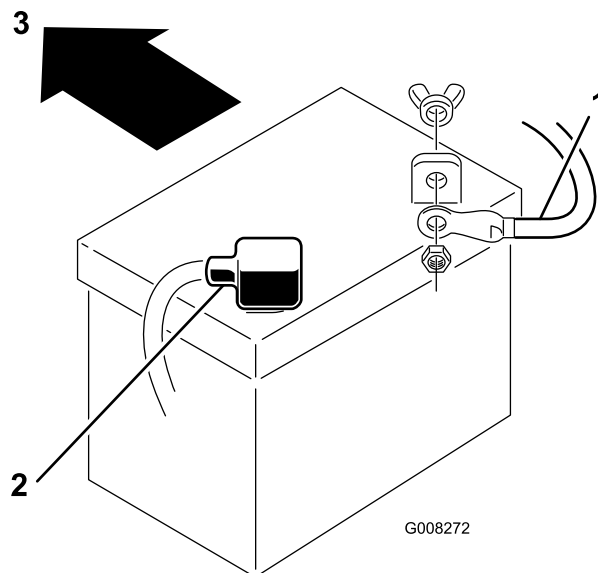

Figure 32
7. Disconnect the negative (black) ground cable from the battery post (Figure 32).
9. Disconnect the positive (red) cable from the battery post (Figure 32).
1. Place the battery into the chassis with the battery posts toward the rear of the machine (Figure 32).
3. Using the bolt and wing nut, connect the positive (red) cable to the positive (+) battery post (Figure 32). Slide the rubber cover over the battery post.
(Figure 32). Slide the rubber cover over the battery post.